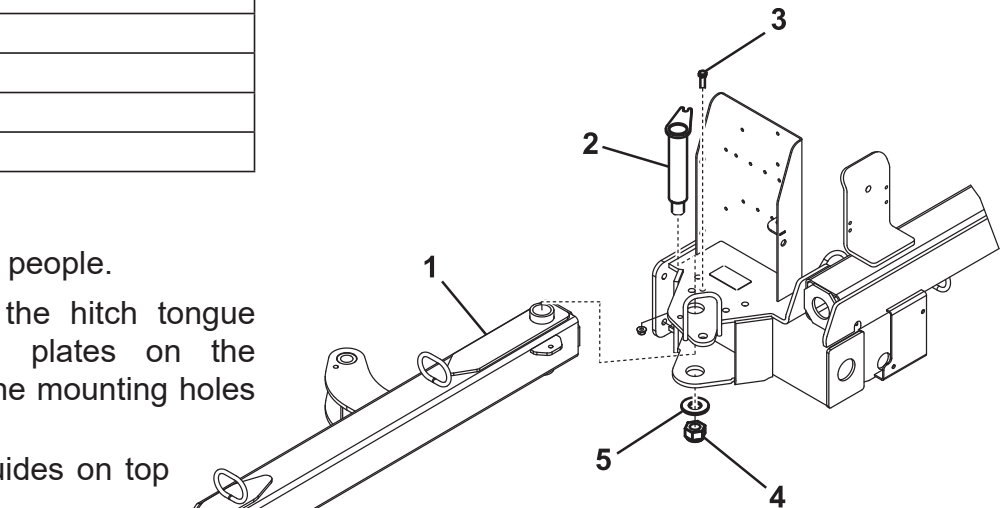

Figure 5
3. Cut the cable ties holding the rear actuator tab on top of the tongue. Mount the rear actuator tab to the machine frame with 4 bolts (1/2 x 2 inch), 8 flat washers (0.531 x 0.063), and 4 locknuts (1/2 inch). Position the components as shown in Figure 5. (Move figure 5 up into step two.)
1. Insert the rear end of the hitch tongue between the mounting plates on the machine while aligning the mounting holes (Figure 5).
2. Insert the hitch pin through the mounting plates and the hitch tongue (Figure 5).
3. Secure the top of the hitch pin to the mounting plate with a bolt (3/8 x 1-1/4 inch) and a locknut (3/8 inch) as shown in Figure 5.
4. Secure the bottom of the hitch pin with a large washer and a large nut (Figure 5).